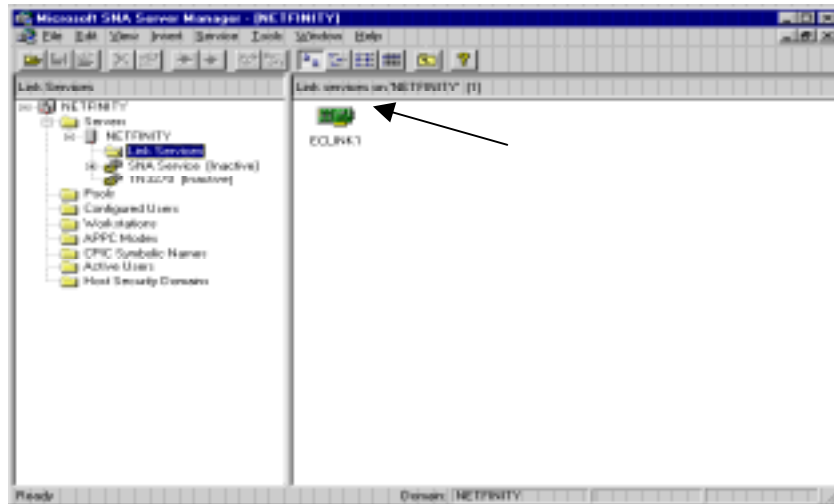

Figure 15-19. ESCON Link Service
1. In Microsoft SNA Manager verify that a link service has been defined for the channel (Figure 15-19).
1. In SNA Server Manager verify that a link service has been defined for the channel (Figure 15-19).